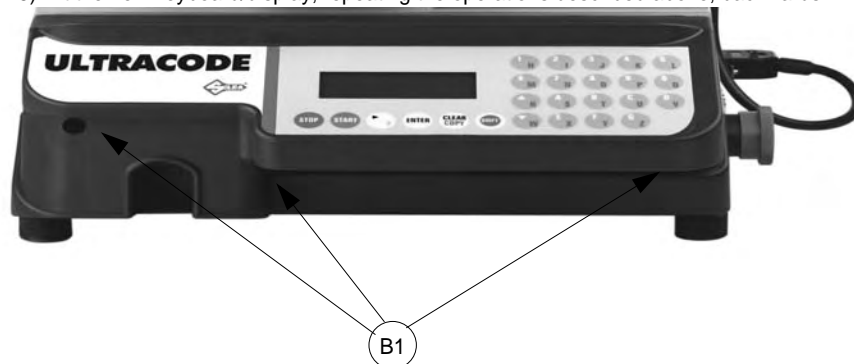

Fig. 43
- 2) remove the display's support, by unscrewing the 3 (B1) fixing screws (fig. 43).